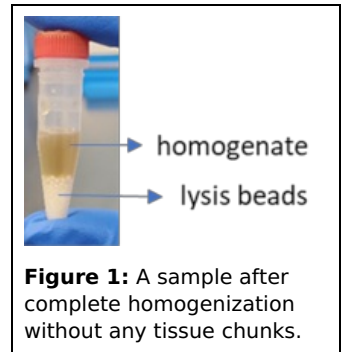

Figure 1: A sample after complete homogenization without any tissue chunks.
4. Remove the tubes and visually inspect the samples to confirm complete homogenization (Figure 1). **Note:** If unhomogenized tissue is seen, homogenize for additional 30 seconds.